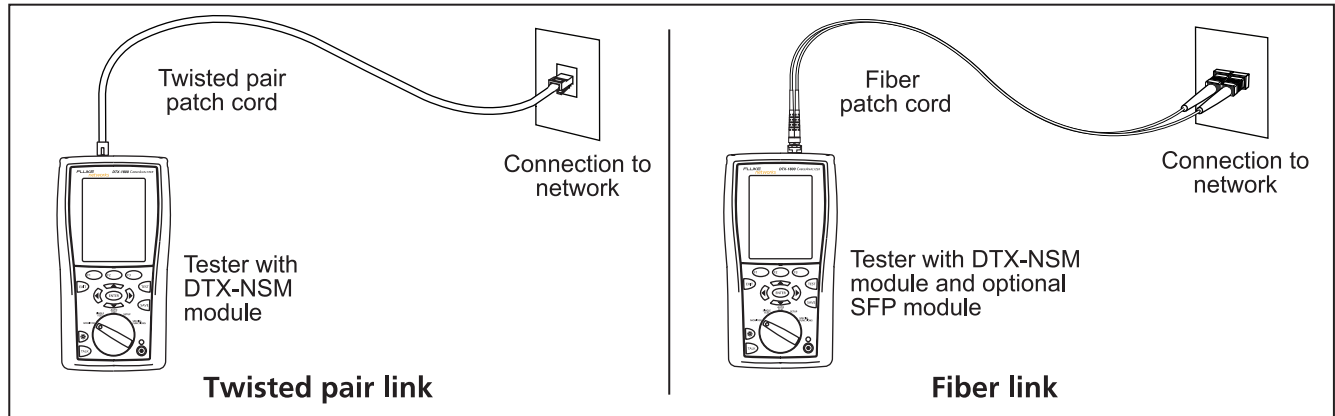

Figure 23. Network Test Connections
- 2 Connect to the network as shown in Figure 23.
- 1 Turn on the tester; then connect to the network as shown in Figure 23 on page 45.
- 1 Connect to the network as shown in Figure 23 on page 45.